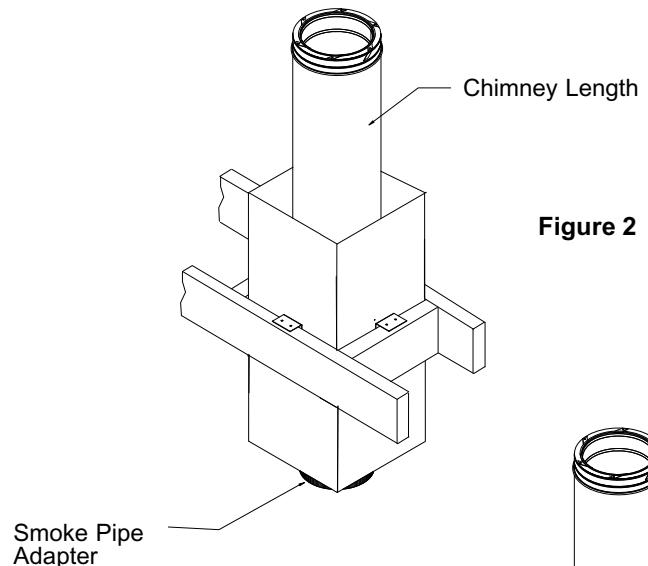

Figure 2
4. Install the Smoke Pipe Adapter on the inlet end of a Chimney Length. Place the first section of chimney into the Ceiling Support with the Smoke Pipe Adapter protruding through the bottom opening (see Figure 2).